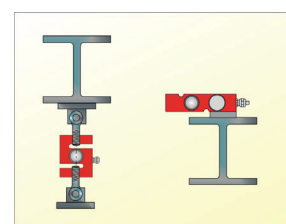

Figure 9. The prevention against the bending of the flange.
- ▶ In such a case the reinforcement with sketch plates is recommended. Similar precautionary measures are also recommended for compression load cells for large carrying capacities and tension load cells, see figure 9. It is important to load the cell in the center line.